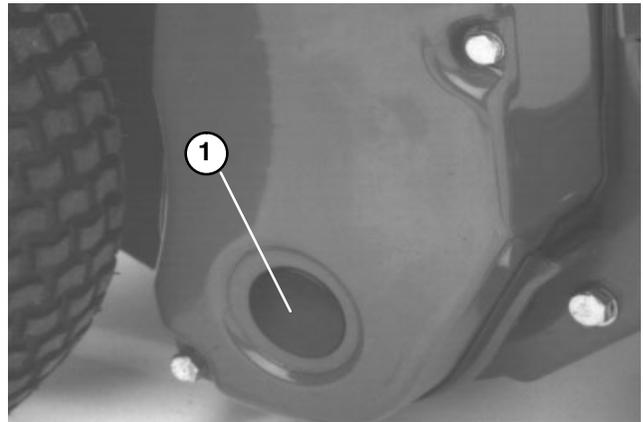

Figure 23
3. Remove the cover plug in the right reel drive cover (Fig. 23).